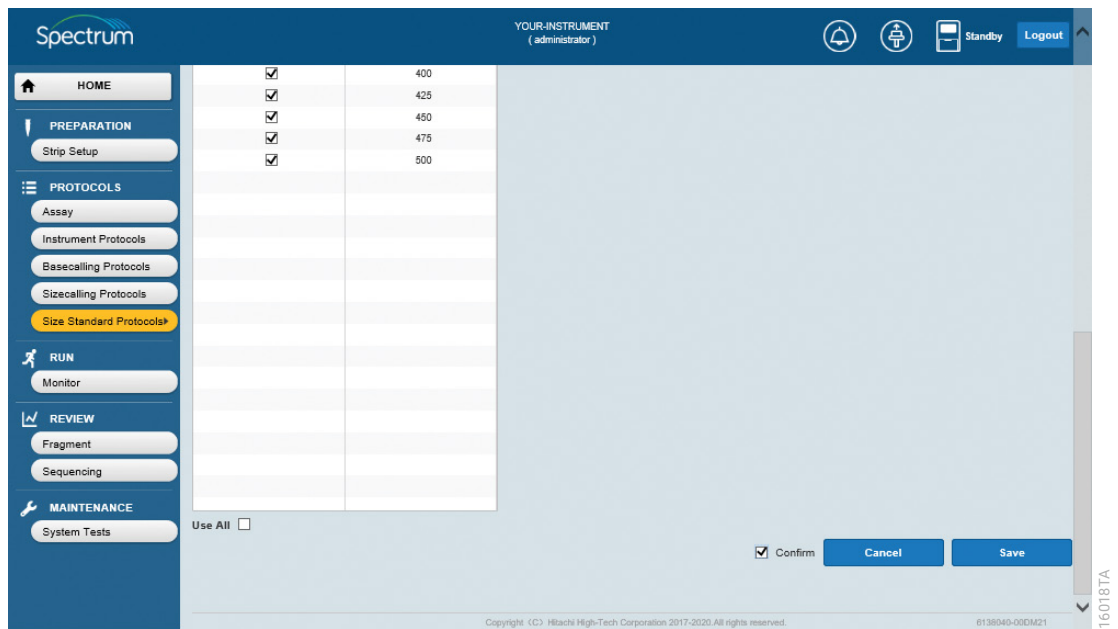

Figure 70. Saving an edited size standard protocol.
10. Scroll to the bottom of the screen and check the **Confirm** box and select **Save** (Figure 70). If no errors are detected, "Normal End" in a green horizontal box will appear on the screen. If errors are detected, either "Invalid data entered" or "The value is out of range" will appear in a red horizontal box and the software will indicate where the error is occurring.